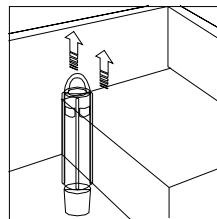

Fig. 13
- Raise hood and remove overflow tube to drain the unit (Fig. 13). **DO NOT LOOSE O'RING!**